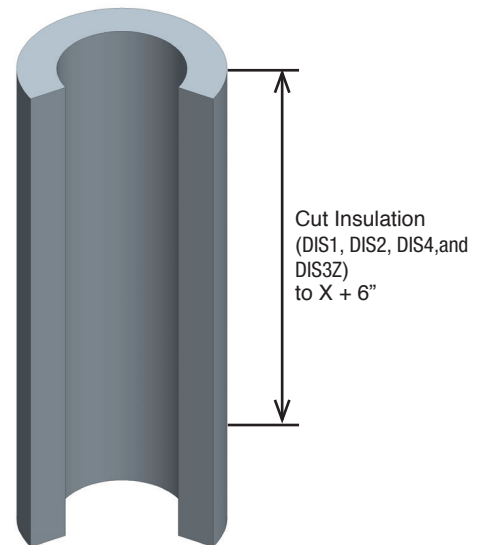

Figure 24c - Step 4 - Cut of the Insulation
4. Then cut the insulation band at dimension X + 6" (DIS1, DIS2, DIS4, DIS3Z). See **Figure 24c**.